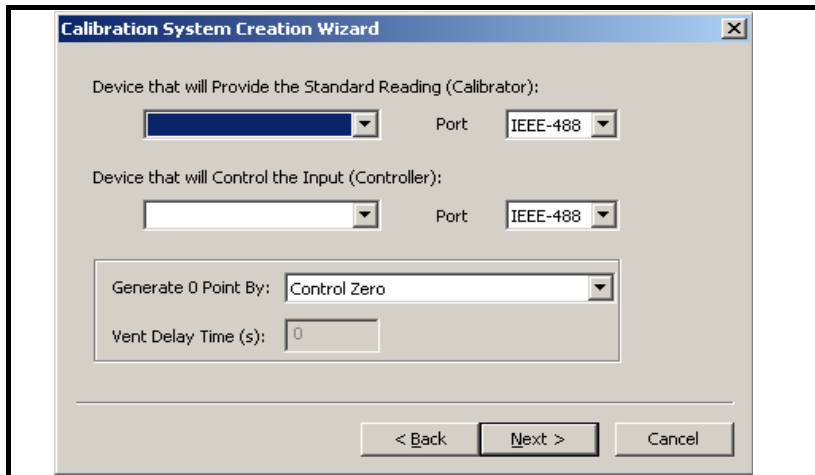

Figure 5-3: Calibration System Creation Wizard - Page 1
3. Click on the *Next* button (Figure 5-3).